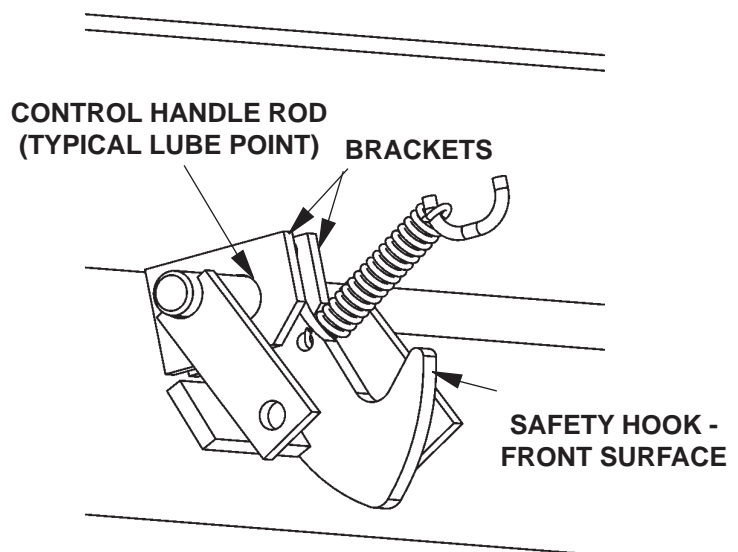

FIG. 21-2
1. Make sure front surface of safety hook **FIG. 21-2** is lubricated with automotive grease. Apply grease if required.
2. Make sure control handle rod (**FIG. 21-2**) is lubricated where it has contact with brackets. Apply automotive grease if required.